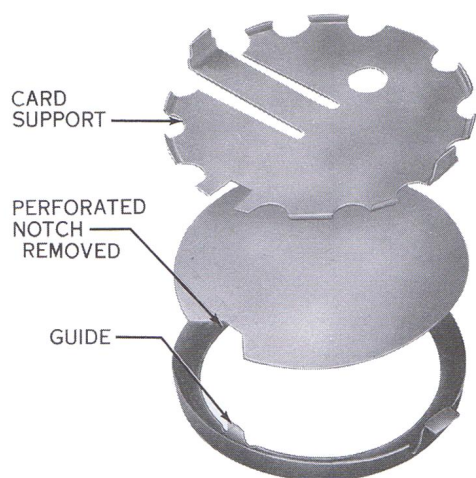

Fig. 8—Method of Placing Card in Holder
4.02 To install number card in metal fingerwheel (Fig. 8).